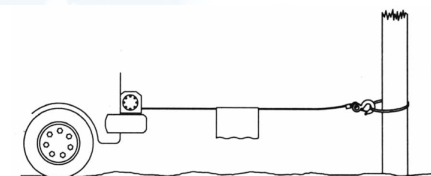

Figure 7
2. When pulling a load, place a blanket, jacket or tarpaulin over the wire rope near the hook end(see Figure 7). This will slow the snap back of a broken wire rope and help to prevent serious injury. Raise hood to protect windshield.